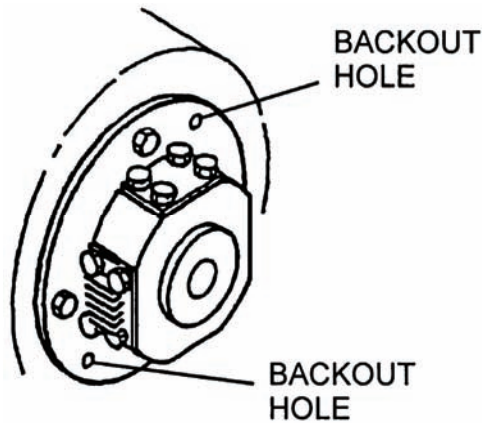

Figure 4-16. End Bell Removal – MEP-814A/MEP-814B.
- e. Remove bolts (6) and lock washers (7) from end bell (5). Discard lock washers (7).
- f. Install two bolts (6) in backout holes in end bell flange (Figure 4-16).